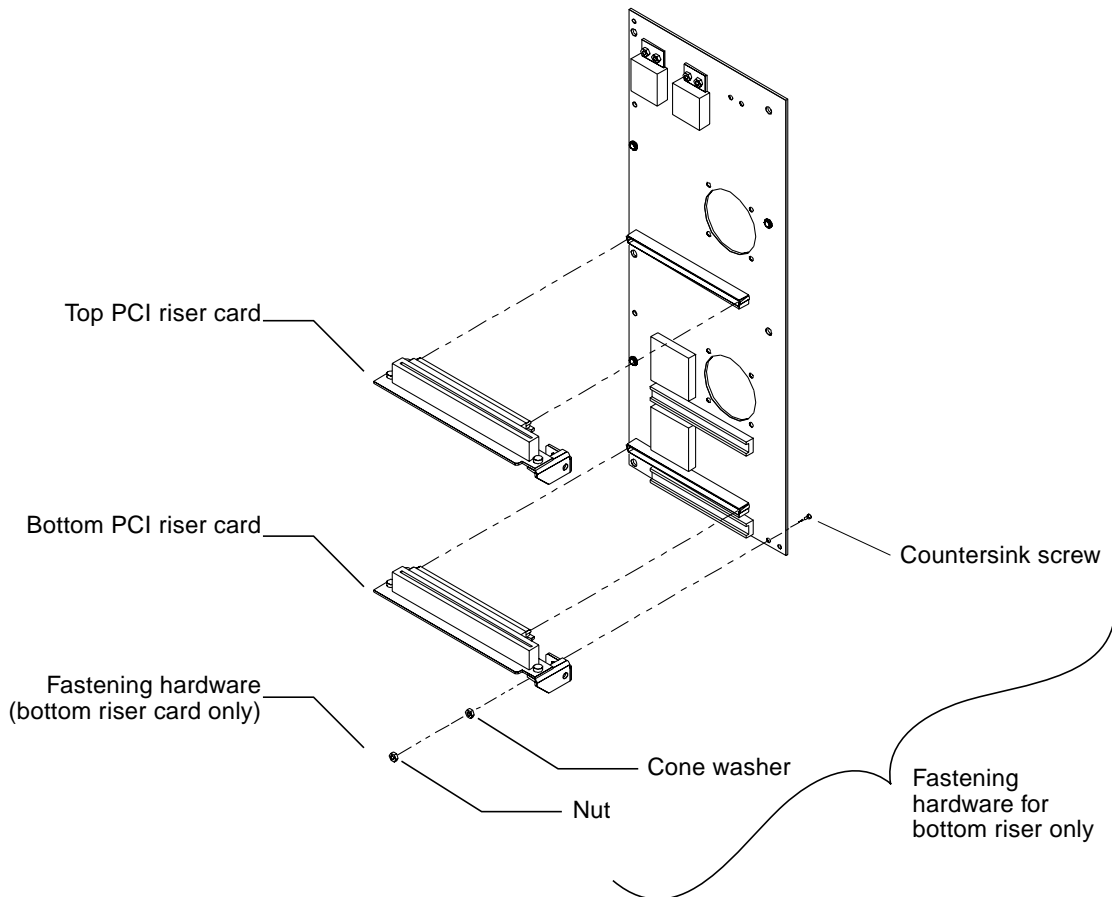

FIGURE 10 PCI Riser Card Installation
- 3. When installing the bottom riser, use the fastening hardware as shown in FIGURE 10, and torque to a setting of 0.6 Nm (5.3 inch-pounds).**